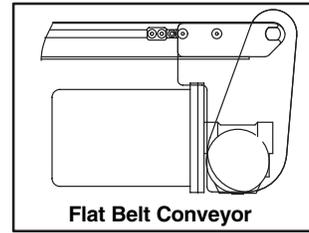
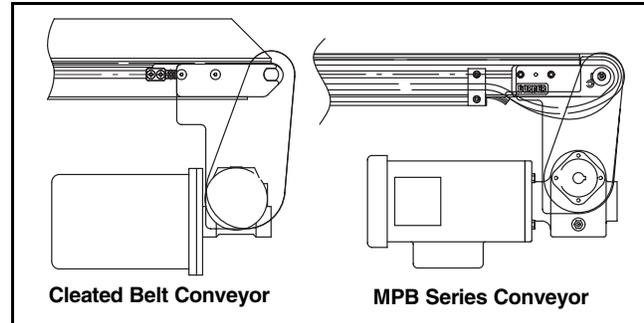

Figure 2
Figure 3
For MPB Series and Cleated Belt Conveyors Gearmotors must be mounted as shown in Figure 3.
*Gearmotor position on Flat Belt conveyors shown in Figure 2. Gearmotor position on Cleated Belt and MPB Series conveyors shown in Figure 3.*